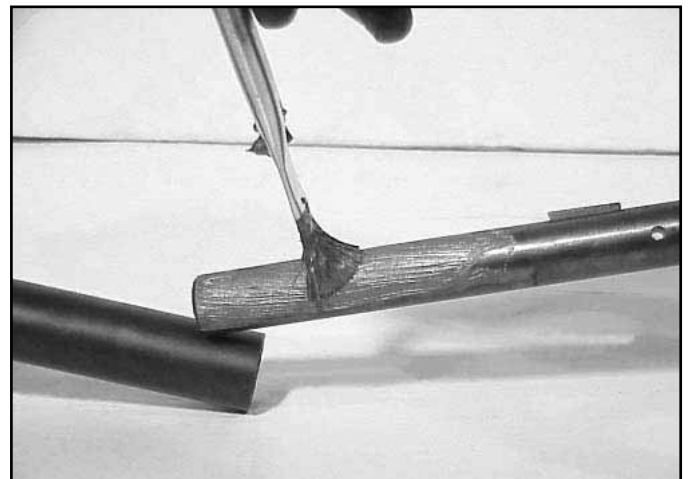

Fig 156
8. Before installing the axle with the 44-tooth sprockets apply a light coat of anti-seize to the outer 5 inches of both ends of the axle shaft. Also apply a light coat to the inside diameter at both ends of the tube about 4 inches (Fig. 156).